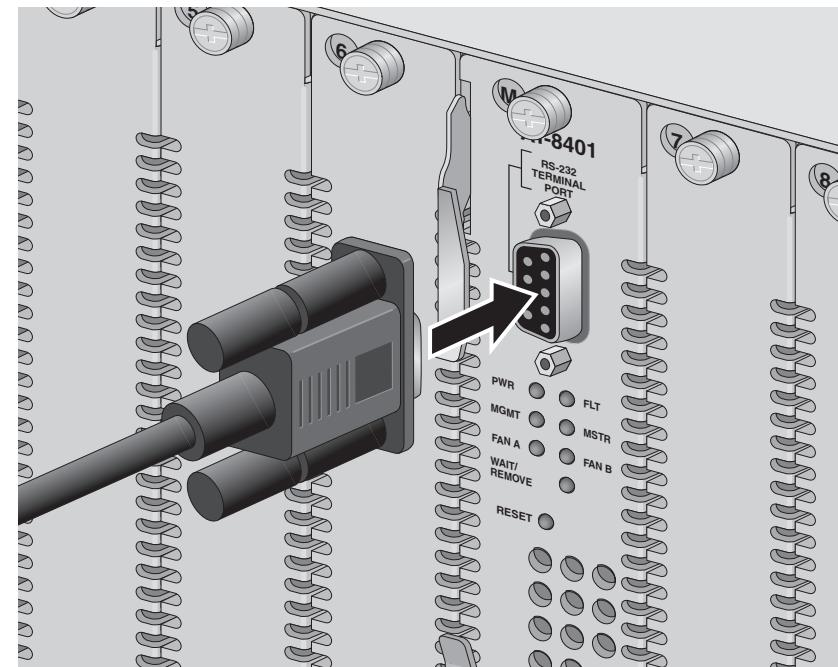

Figure 29 Installing a RS-232 cable
9. For local management of the chassis, attach one end of a RS-232 cable with a DB9 connector to the RS-232 port on the management card and the other end of the cable to a terminal or PC with a terminal emulator program. See Figure 29.